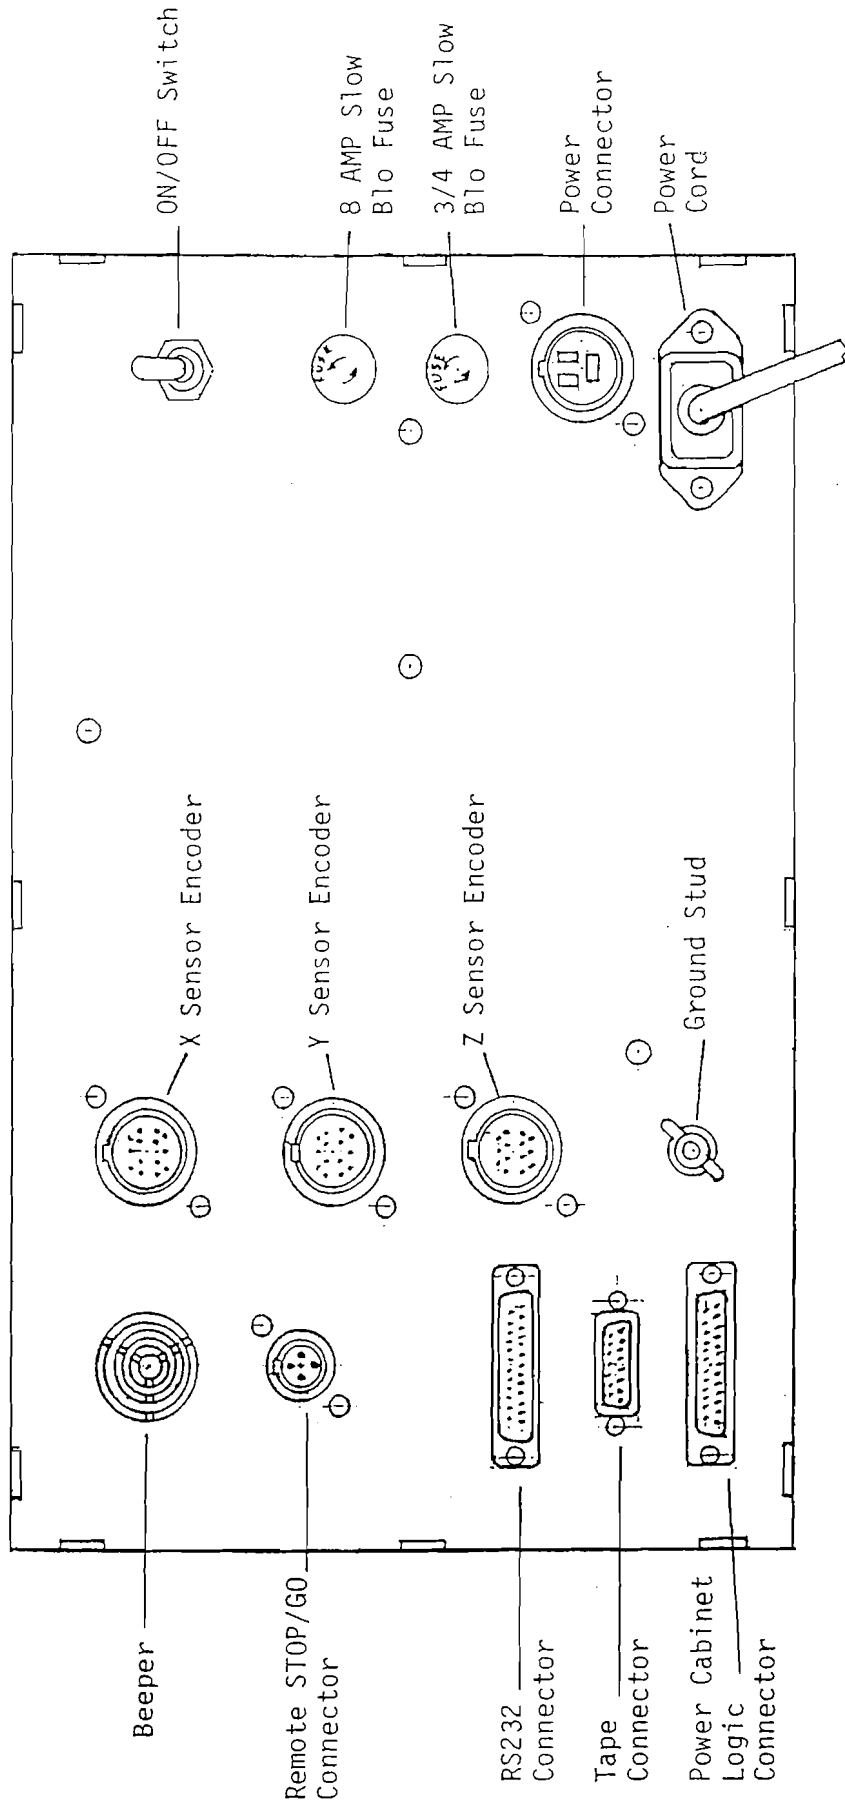

FIGURE 2
2.3 Pendant Back Panel (Figure 2)
See Figure 2 for a description of the fuses, switches, and connectors on the pendant back panel.